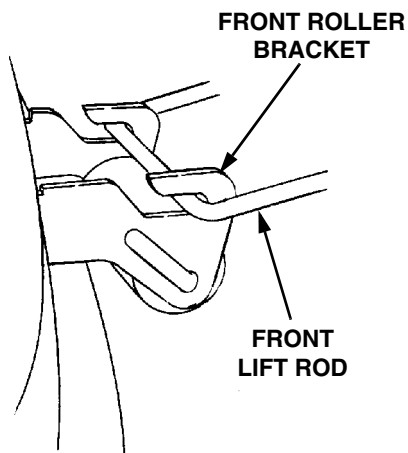

Figure 45
- While holding the front lift rod up, slide the mower deck forward until the rod aligns with both front roller bracket slots. Lower the lift rod into the front roller bracket slots and slide the deck rearward to engage the lift rod fully forward in the slots of the deck front roller bracket (See Figure 45).